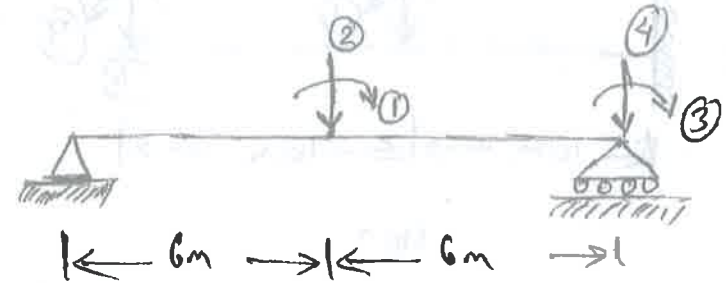

Fig. 5
- (c) Develop the flexibility matrix for the simply supported beam in fig. 5. 14